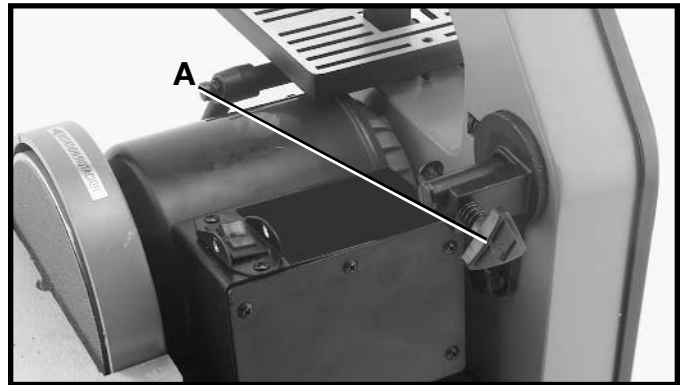

Fig. 17
The belt tracking adjustment is set at the factory so that the abrasive belt will run true on the pulleys. If, however, the belt should lead to either side of the pulleys, make the adjustment by turning the tracking knob (A) Fig. 17. Turning the knob (A) clockwise (when facing the sander) will move the belt to the right. Turning the knob (A) counterclockwise will move the belt to the left.